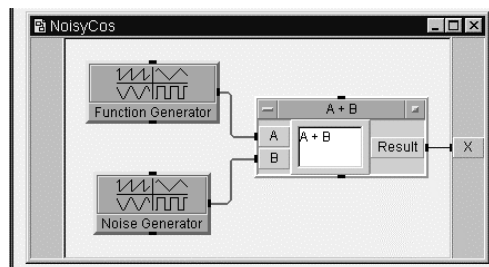

Figure 1.7. The completed NoisyCos UserObject
21. Go to the upper-right corner of the NoisyCos Title Bar; click on the middle button. (This will decrease the size of the Noisy Cos UserObject.) See Figure 1.7.